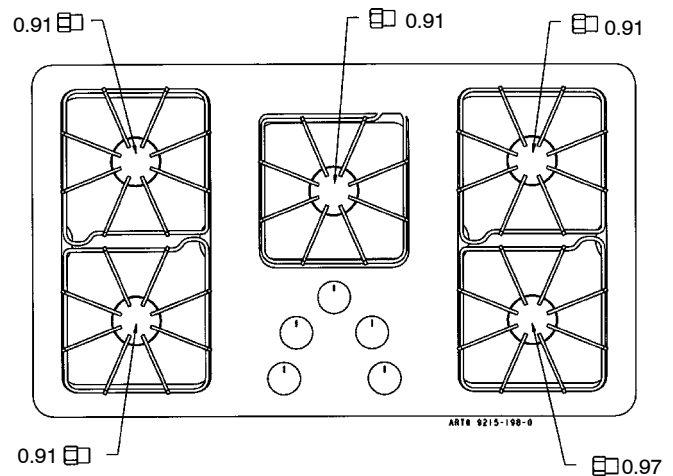

FIGURE 8
Step 4: Locate the LP orifice spud packet included in the literature packet. The spuds have small numbers stamped on the side. This number codes the orifice diameter and its correct burner location. Figures 8 and 9 show the correct LP orifice spud location.